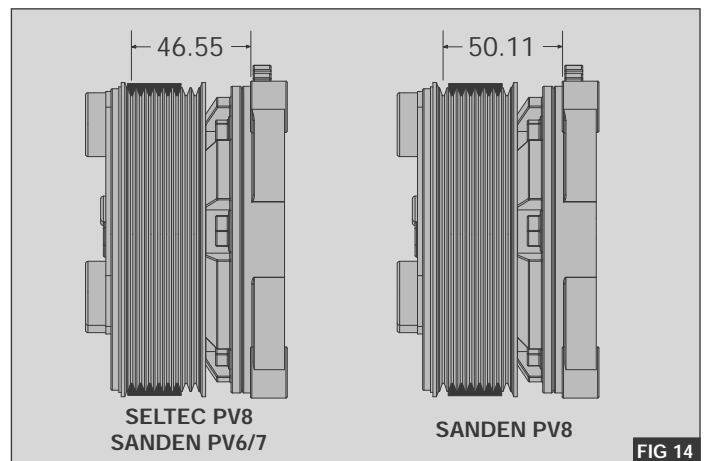

FIG 14
2. Install the supplied compressor drive belt  as detailed in - Fig 14